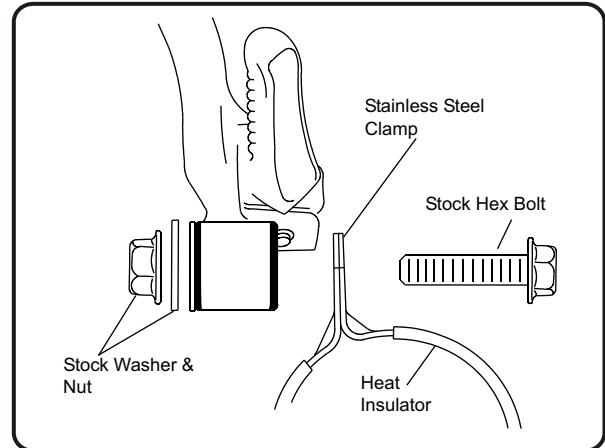

Fig. 1
- 7 Insert heat insulator in muffler clamp and slide over muffler. (See Fig. 1)
- 12 Check for proper clearance between new exhaust system and motorcycle. (i.e. radiator, oil pan, swing-arm etc.) If any problem is found, please carefully follow through the installation steps again. If problem still persists, please call Yoshimura tech. dept. At (800)634-9166 / in CA (909)628-4722